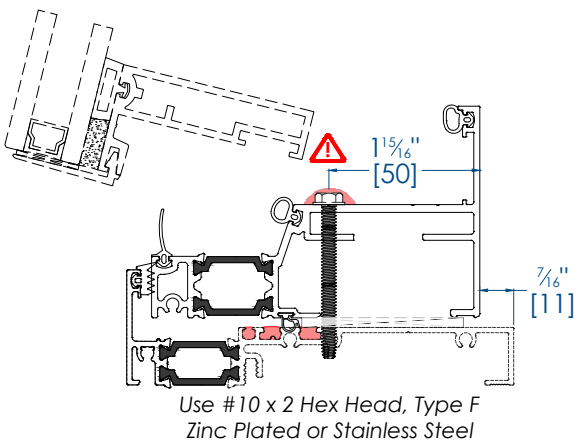

FIG. 3
- Center the INSERT VENT and place appropriate horseshoe shims between the vent and the fixed framing. Adjustable clamps may be used to assist with installation. **See FIG. 3**